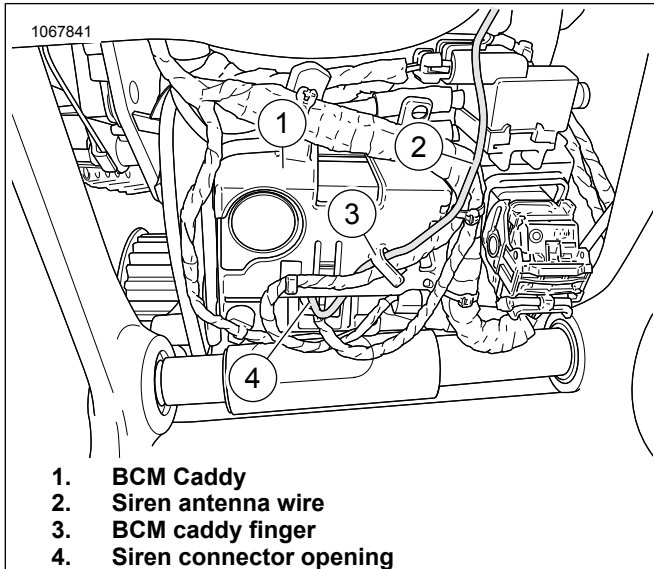
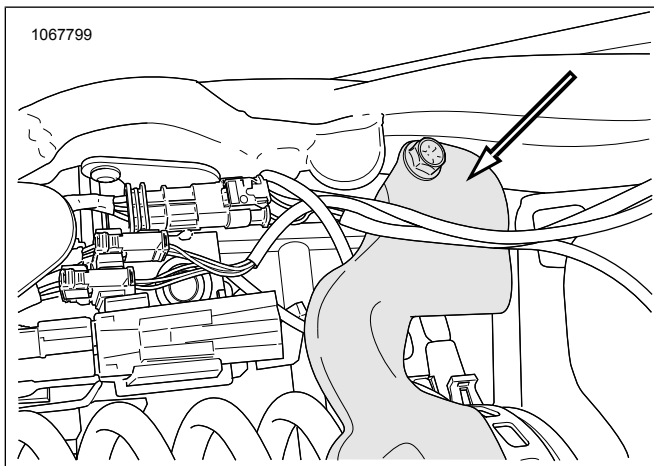

Figure 28. Siren Pager Antenna Wire Routing: (Rear tire and splash guard removed for clarity)
Figure 29. Cleaning Area
- a. See Figure 28. Route siren pager antenna wire (2) through siren connector opening (4) in BCM caddy (1).
- b. Route antenna wire upwards to right side of under seat area. Use BCM caddy finger (3) to support antenna.
- c. See Figure 29. Clean the surface of the right side of the upper rear frame crossmember. Refer to Adhesive Strips.